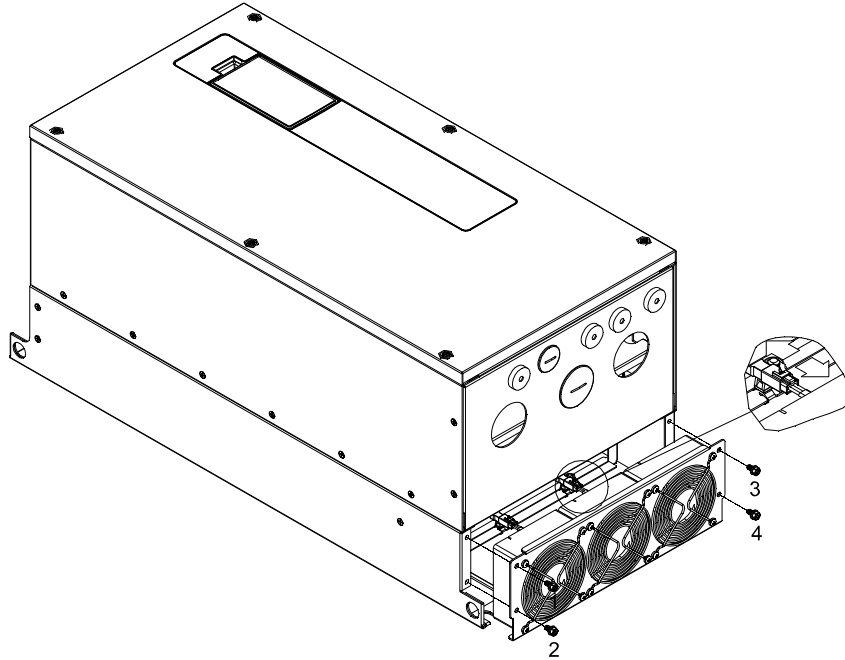

Figure 1
2. Before removing the fan, remove the cover by using a slotted screwdriver. (refer to Figure 1)